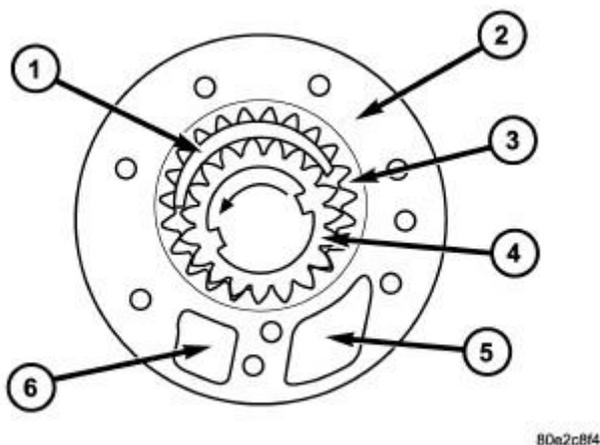

Fig. 173: Identifying Oil Pump Components
The oil pump (2) (crescent-type pump) is installed in the bellhousing behind the torque converter and is driven by the drive flange of the torque converter. Refer to **Fig. 173**. The pump creates the oil pressure required for the hydraulic procedures.